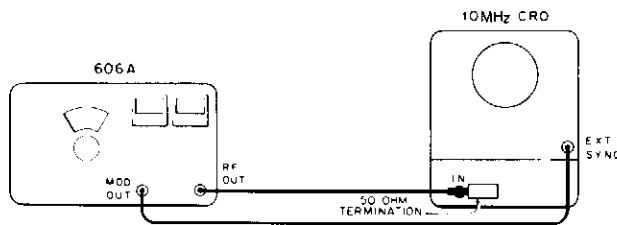

Figure 4-2. Modulation Meter Calibration
a. Connect the unit to a 10 MHz oscilloscope as shown in **Figure 4-2**.